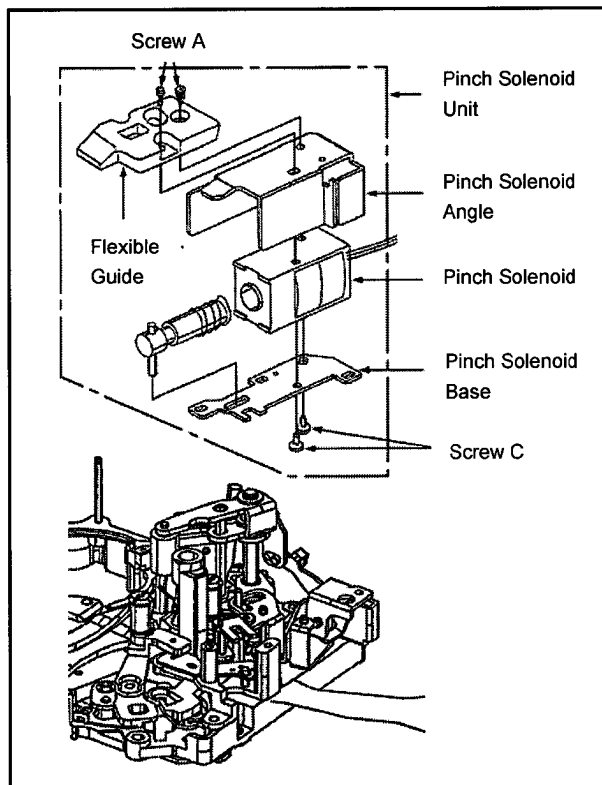
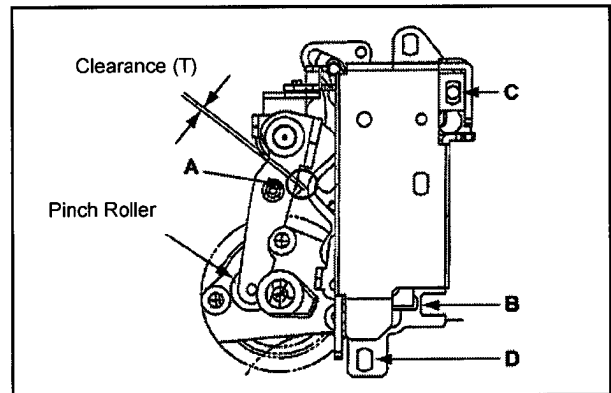

Fig.4-4-1
Fig.4-5-1
2. Unscrew the 2 screws (A) and remove the Flexible Guide and Pinch Solenoid Angle as shown in Figure 4-4-1.
3. Unscrew the 2 screws (C) and (D) as shown in figure 4-5-1 and remove the Pinch Solenoid with the Solenoid Base as shown in Figure 4-4-1.
4. Unscrew the 2 screws(C) and remove the Pinch Solenoid base as shown In Figure 4-4-1.